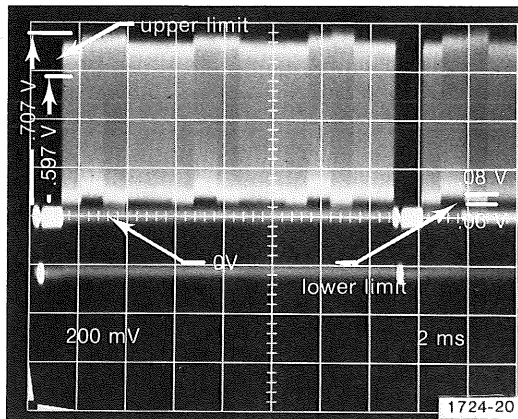

Figure 3-9. Multiburst Composite Video Waveform Following Adjustment.
- i. Adjust R151 for a field amplitude between 0.06 and 0.08 V on the low end and 0.614 to 0.814 on the high end, relative to the 0.0 V blanking level (Figure 3-9).